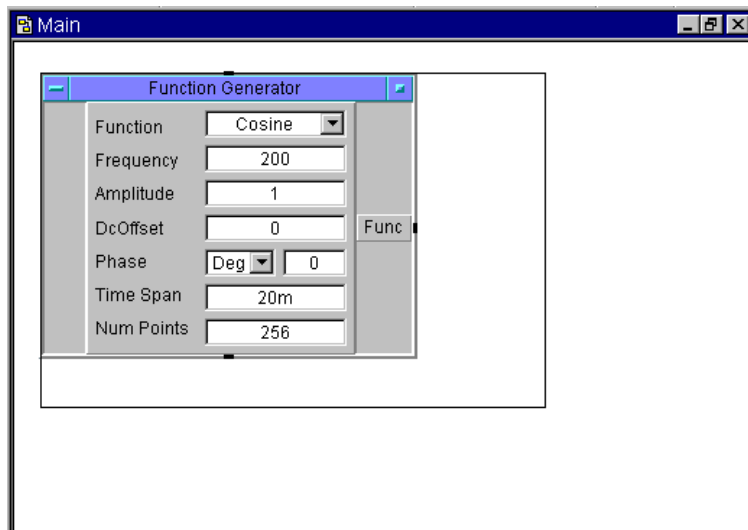

Figure 1-11. Changing the Size of an Object
1. Place the mouse pointer over any of the four corners of the object until you see a sizing arrow, then click-and-drag to the desired size. Release to resize. Figure 1-11 shows an object being resized with the sizing arrow.